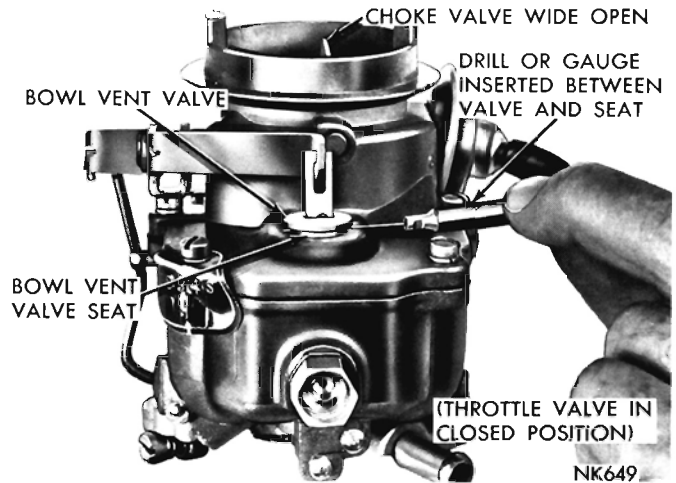

Fig. 13—Measuring Bowl Vent Opening
(3) Close the throttle valves tightly. It should be just possible to insert a $\frac{1}{16}$ inch drill (.060) between the bowl vent and the air horn, as shown in (Fig. 13).